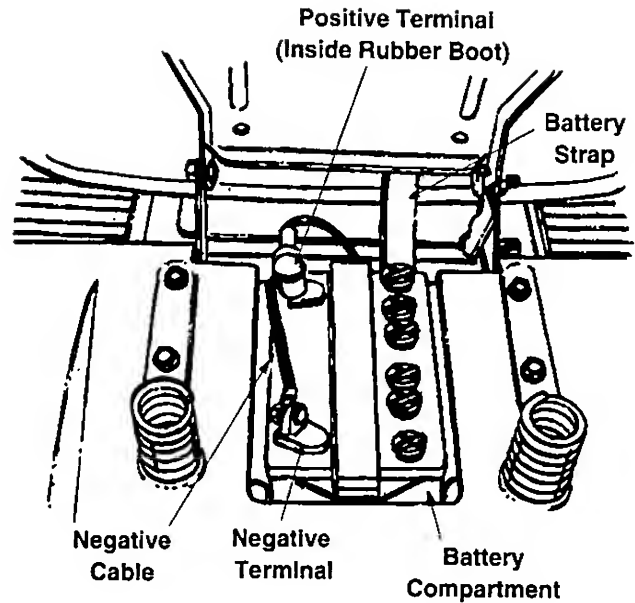

Figure 8
2. Make certain both the negative (black) cable and the positive (red) cable are routed up through the battery compartment as shown in Figure 8.